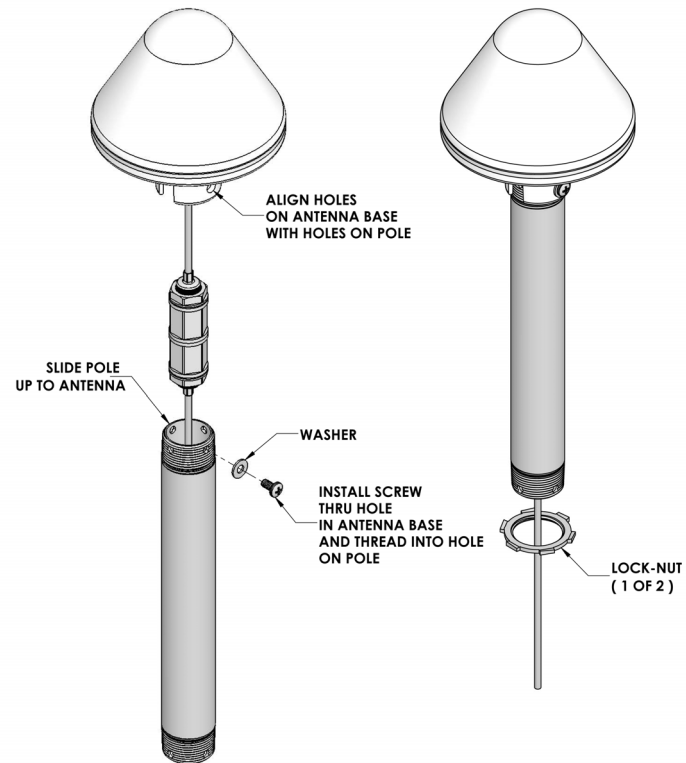

Figure 2-11 • Attaching SyncServer S80 to Pole
11. Screw the first pipe nut onto the bottom of the mounting pole, as shown in Figure 2-11.